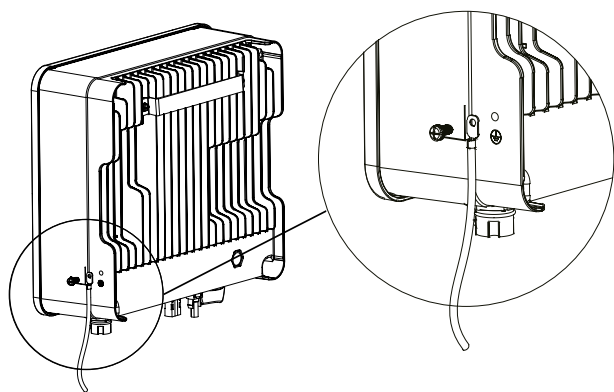
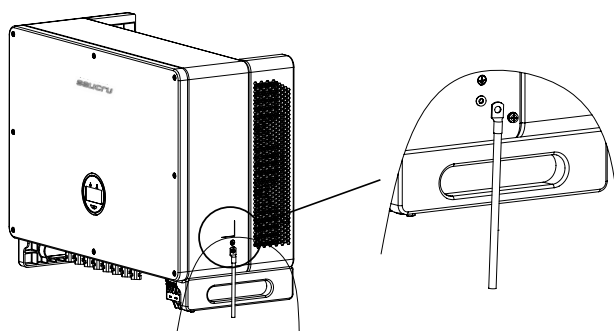
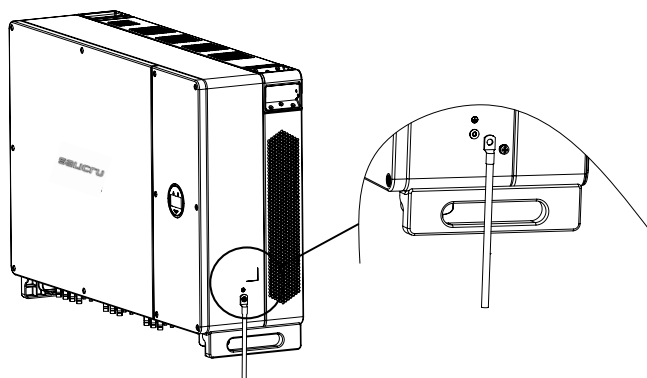

Fig. 19. Earthing terminal connection.
Fig. 20. Earthing terminal connection.
Fig. 21. Earthing terminal connection.
2. Fasten the earthing connection terminal to the PE cable with a suitable tool and lock the earthing connection terminal to the earthing connection hole on the bottom right side of the inverter as shown in Fig. 19, Fig. 20, Fig. 21.